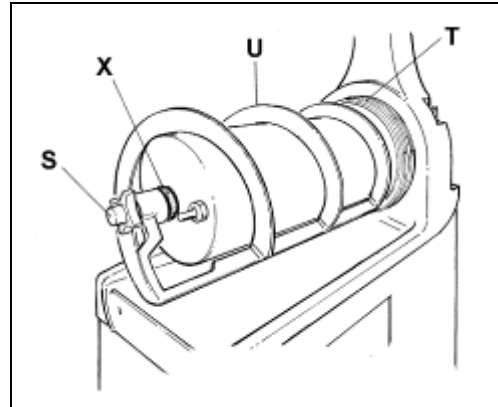

Fig. 5
- **U**nscrew the securing bolt (S) in the direction of the arrow (threading on the left), pull off the mixing unit (U), and remove the sealing washers (X) and (T) (see figure 5).
- Mount the mixing system back together (fig.5), according to the following procedures: